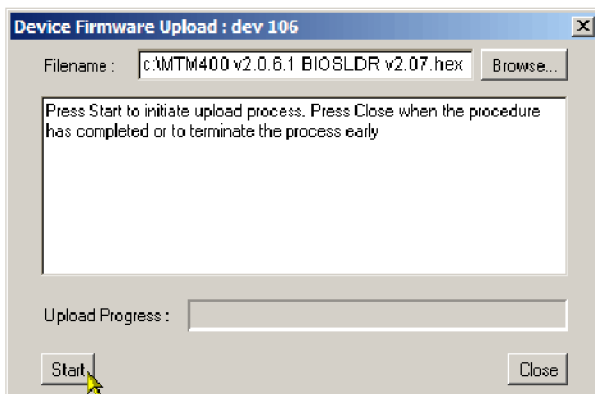

Figure 9: Device Firmware Upload window (RUI v2.6.1 and below)
4. In the Device Configuration view, click **Upload Device Firmware**. This opens the Device Firmware Upload window. (See Figure 9.)
4. In the Device Configuration view, click **Upload Device Firmware**. This opens the Device Firmware Upload window. (See Figure 9 on page 22.)